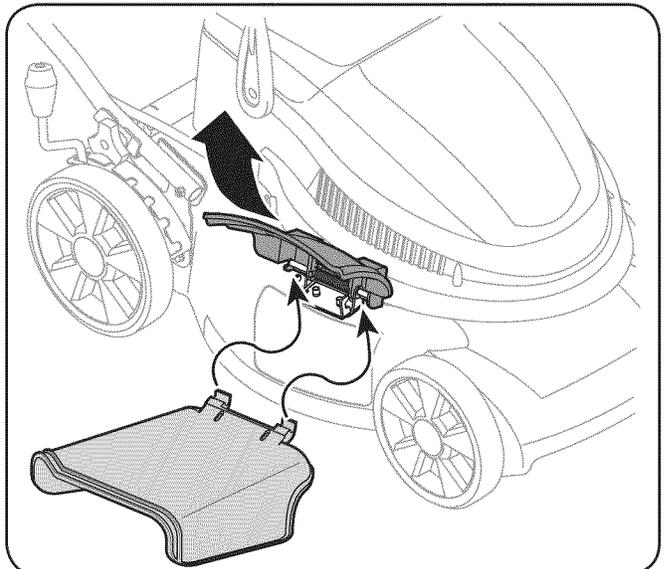

Figure 3-9
2. Slide the hooks of the side discharge chute under hinge pin on mulch baffle assembly. See Fig. 3-9.
- Secure the tabs of the side discharge chute onto the hooks below the side mulching baffle. See Fig. 3-9.